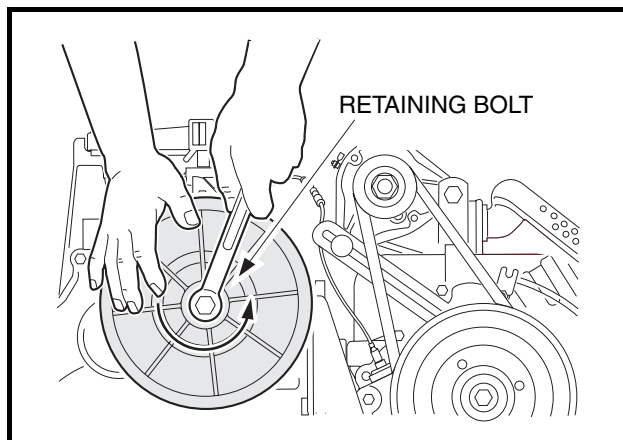

Figure 16-30 Driven Clutch
17. Remove the driven clutch retaining bolt and remove the driven clutch from the unitized transaxle (**Figure 16-30, Page 16-12**).